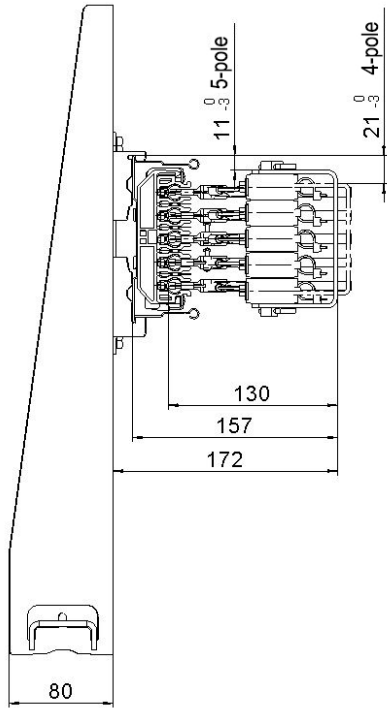

Fig. 77: Current collector 0831 (Order No.: 083103-...)
- Observe the distance between the installing plane of the current collector unit and the contact surface of the conductor rail according to the installation drawing (see Fig. 77 to Fig. 80):
- The current collector must be perpendicular to the contact surface (see Fig. 77 to Fig. 80). If necessary, the position of the current collector must be adjusted. A height offset can lead to damage to the surface contacts and the insulating profile.